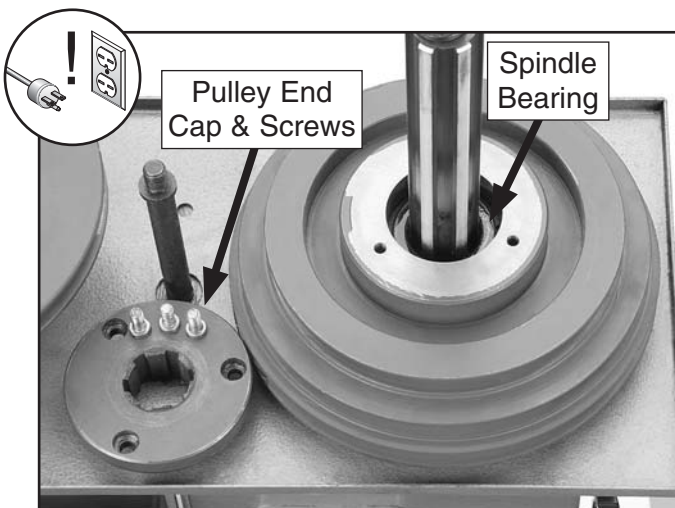

Figure 99. Upper mill spindle bearing exposed.
14. Remove the three screws securing the spindle pulley end cap, then lift the end cap off the spindle (see **Figure 99**).